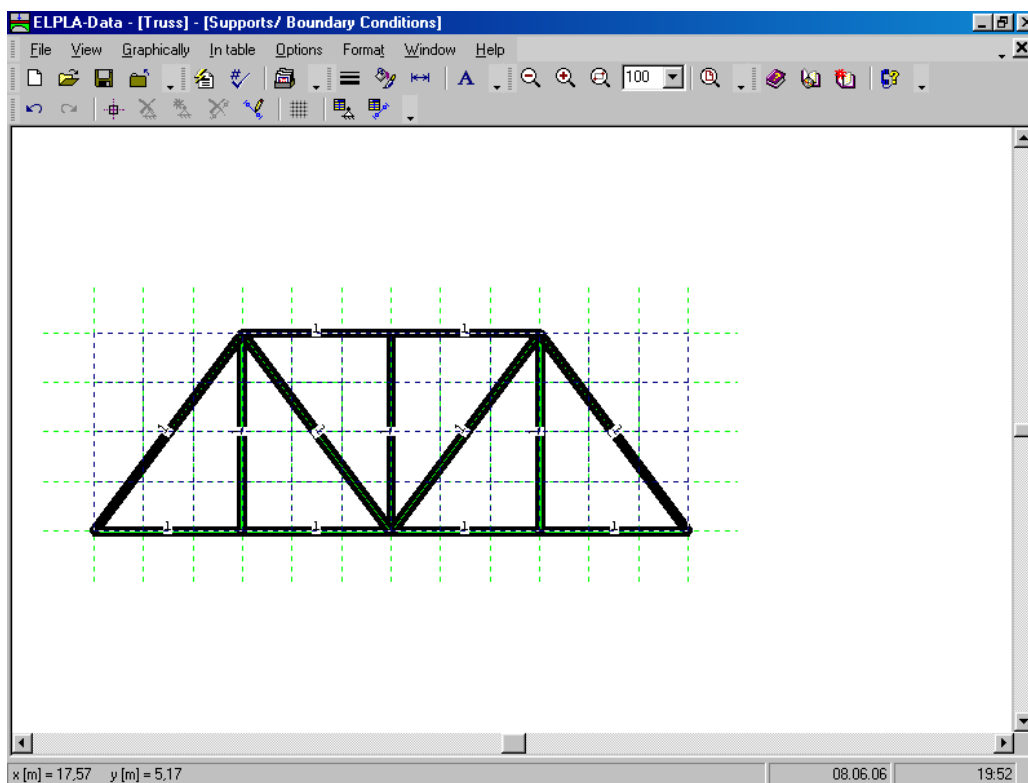

Figure 6-18 "Supports/ Boundary conditions" embedded program
To define supports, choose "Supports/ Boundary conditions" command from "Data" menu of *ELPLA-Data*. The following embedded program in Figure 6-18 appears.
*ELPLA* can display girders, supports, loads, etc. in one view together. The advantage of this option is that the user can control easily locations of supports or loads on the net when entering the rest of the data. In the case of analysis of girder problems, *ELPLA* displays girders during input of other data. As shown in Figure 6-18, girders are drawn with the actual thickness.